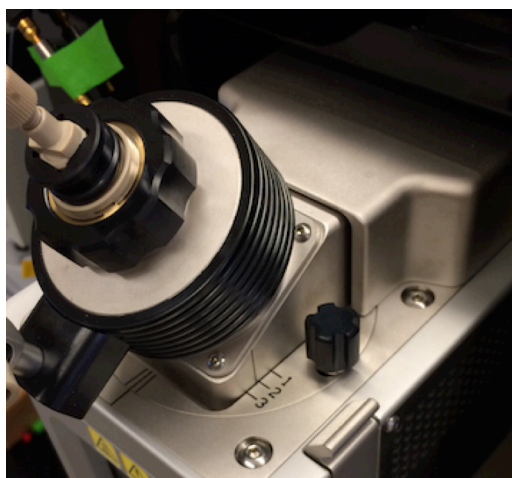

Figure 1: Source position for sample analysis by Easy Max NG ESI source
box is selected, and click start. If calibration fails, verify spray is stable and normalization level is still at $\sim 10^8$. Unselect “Check tune” and click start. When done, save .PDF and rinse syringe with methanol. Make sure to move source back to appropriate position for sample analysis (Figure 1).
To calibrate in negative ion mode: Move source to closest position and load neg_tune_VT_072016 in User Settings. Verify source settings match Table 1B. Fill negative calibration syringe with negative ion calibration solution. Place in syringe pump and attach to ion source using positive calibration peek line. In the Orbitrap Fusion Tune Application, select “Syringe” and set flow to 10 $\mu\text{L}/\text{min}$. Click start. Monitor normalization level until intensity reaches $\sim 10^8$. When spray is stable, go to the “Calibration” pane and select appropriate tune procedures. Verify “Check tune” box is selected, and click start. If calibration fails, verify spray is stable and normalization level is still at $\sim 10^8$. Unselect “Check tune” and click start. When done, save .PDF and rinse syringe with methanol. Make sure to move source back to appropriate position for sample analysis (Figure 1).
5. Verify ion source is in correct position (Figure 1).